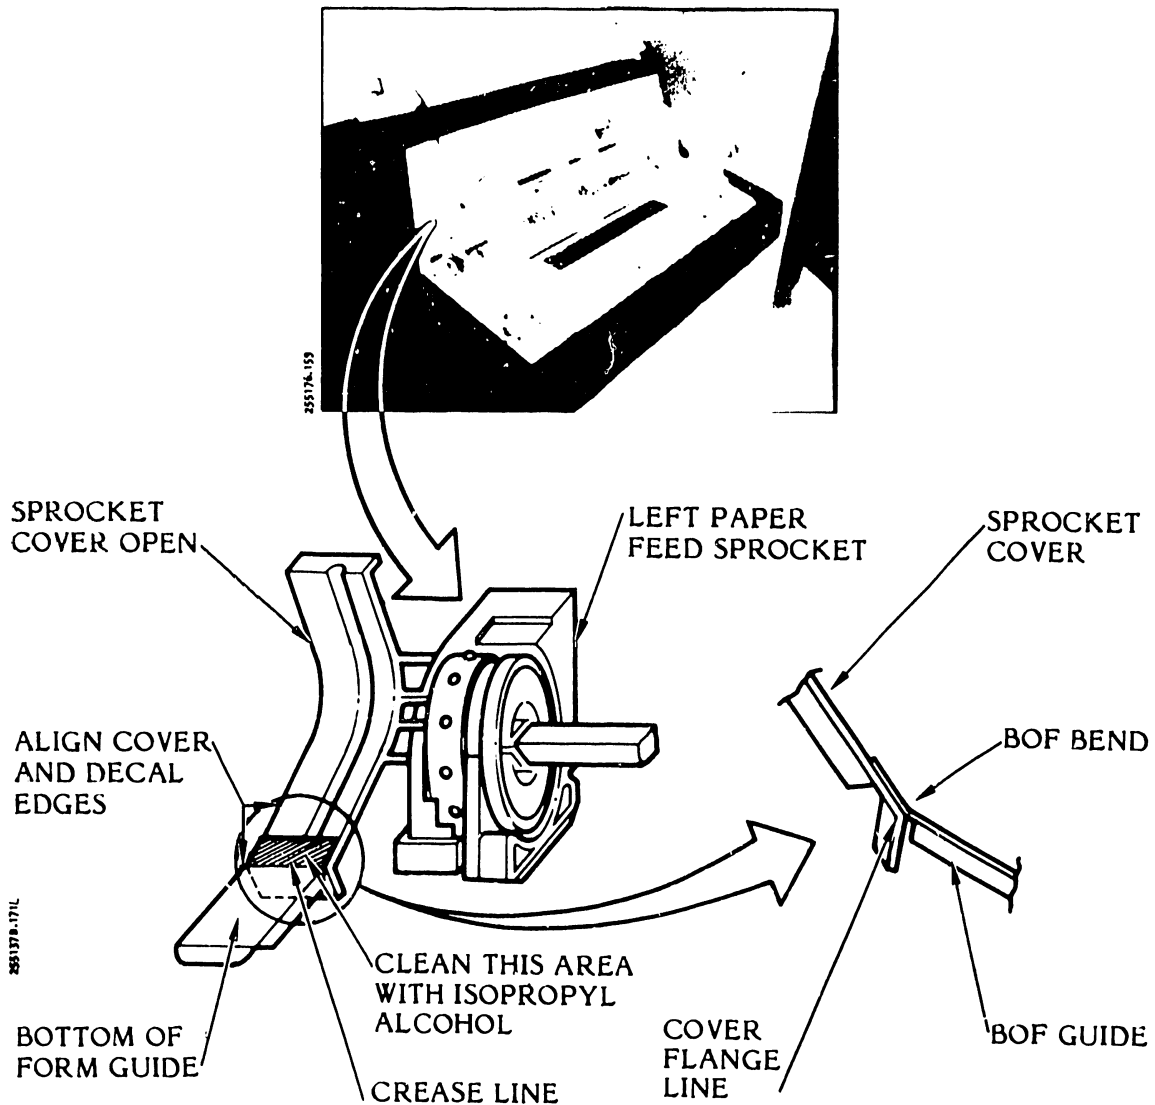

Figure 3-134. Bottom of Form (BOF) Guide Removal/Installation
3.7.65 Bottom of Form (BOF) Guide Removal/Installation (Figure 3-134)
- c. Position the guide so that the edge is aligned with the left (outside) edge of the sprocket cover as shown in figure 3-134.